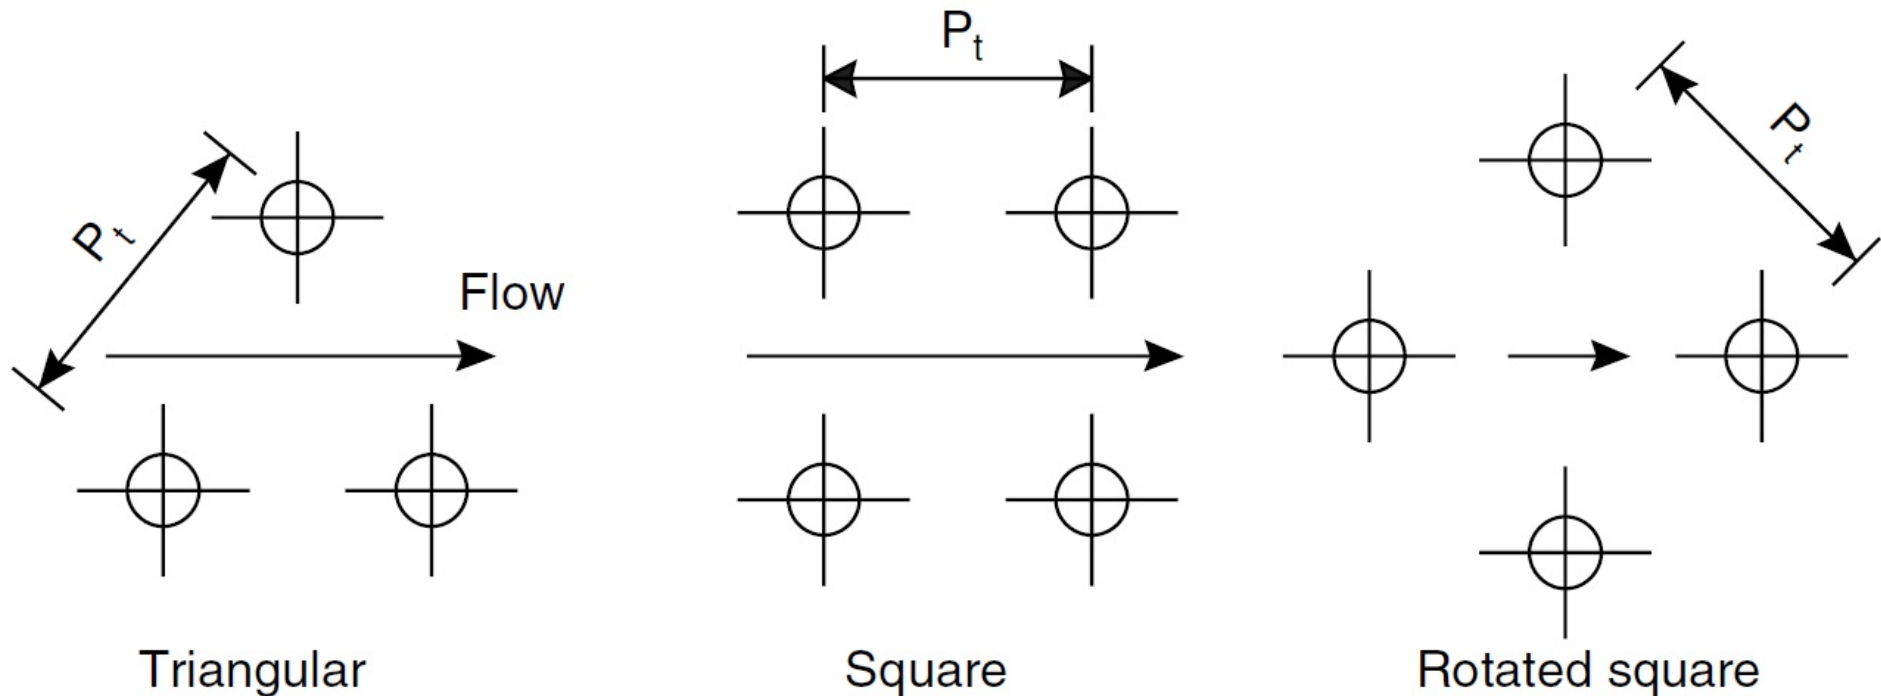

Fig. 2: Tube patterns
- The tubes in an exchanger are usually arranged in an equilateral triangular, square, or rotated square pattern (Fig. 2)